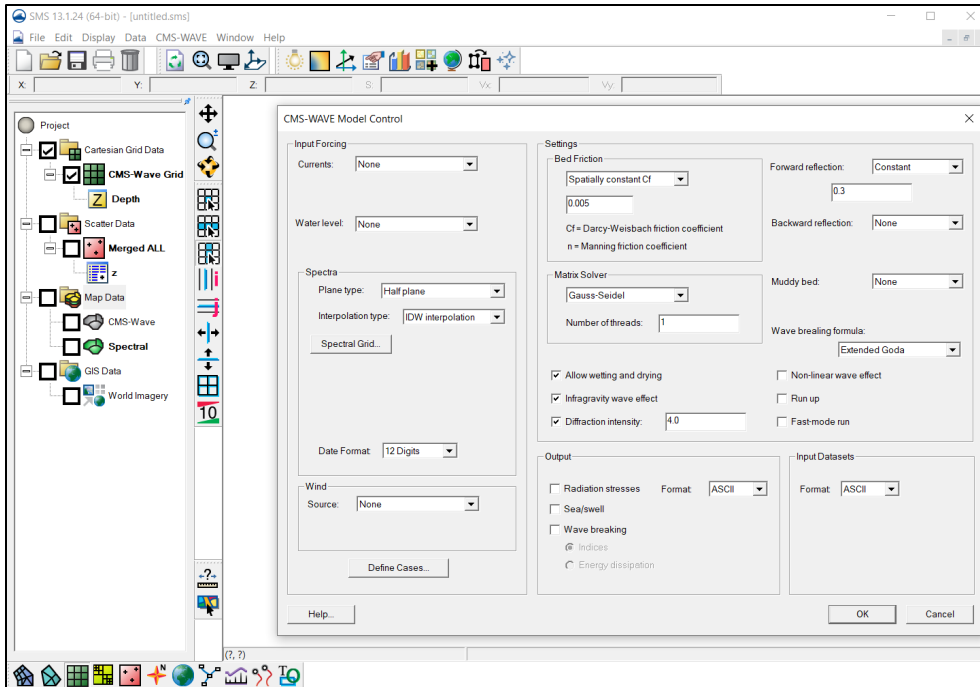

Figure 21. Display *CMS-Wave Model Control* dialog.
- Select *CMS-Wave* | **Model Control...** to bring up the *CMS-Wave Model Control* dialog (Figure 21).